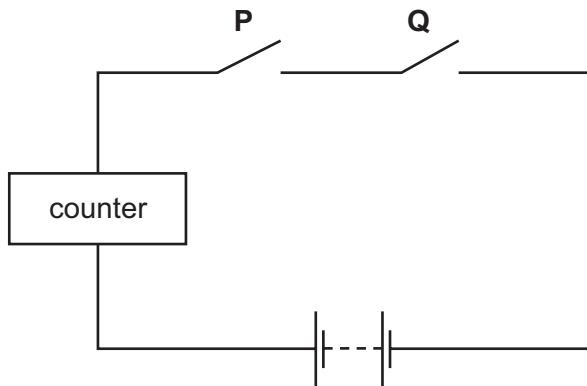

Fig. 6
- (e) Logic gates could be used to control a counter. Fig. 6 shows a pressure pad circuit that is used to trigger a counter when a person steps on pad P and, at the same time, presses the push button Q.